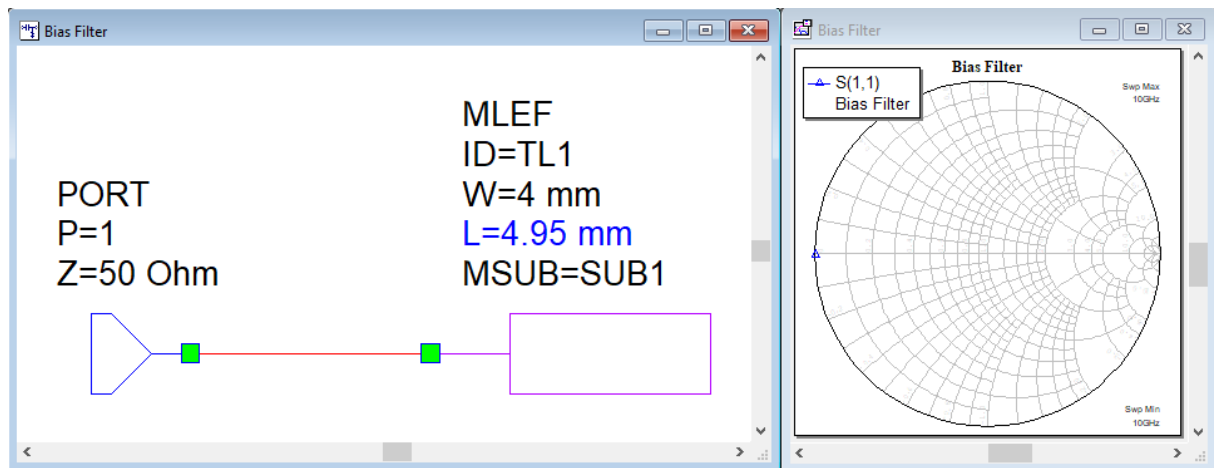

Fig. 8 Open microstrip stub acting as a short circuit at design frequency.
- Create a new schematic called Bias Filter and insert an open section of microstrip line MLEF with width 4 mm and length  $\lambda_g/4$  in it. Tune its length to produce a short circuit at the design frequency as shown in Fig. 8.